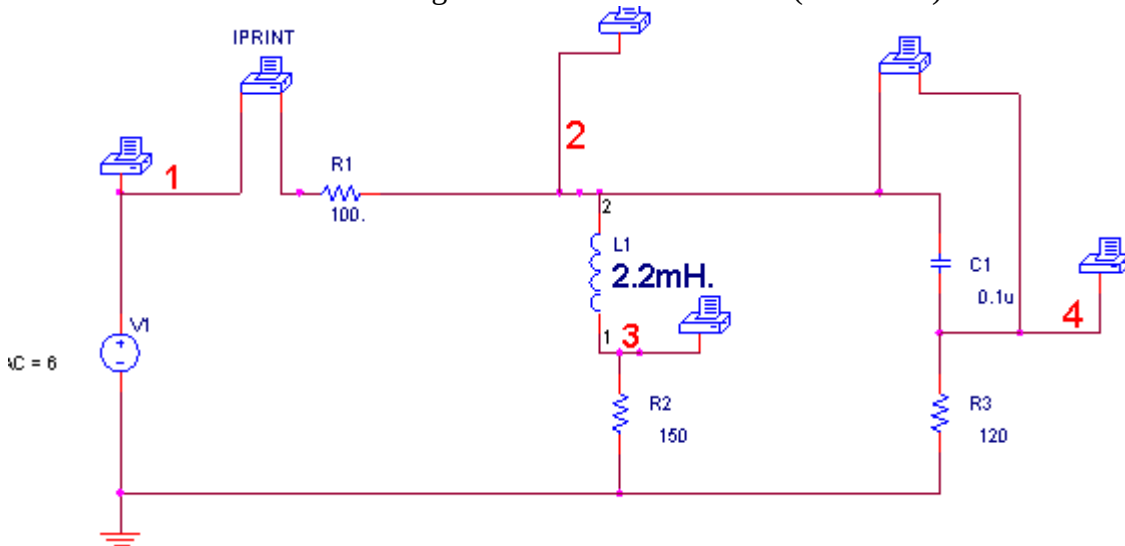

Figure 3 Circuit for Part 2 of PreLab
Solve the circuit of Figure 3 and determine the phasor voltages V_1 , V_{20} , V_{23} , V_{30} , V_{24} and V_{40} . Use the source voltage as the reference phasor. The ac voltage source is 6 V (peak). Use PSpice to verify your answers. This is just the previous circuit with another branch added. Note the node numbers. Ignore the terminal numbers (2 1 for L1) of the inductor.
- 1.1** Build the circuit of Figure 3 and measure the following phasor voltages at 15 kHz with the oscilloscope. Measure the phase relative to the input signal from the function generator. (If required, seek help in making the phase measurements with the scope). Compare the results of your measurement with prelab simulation and with the hand calculations. Enter your experimental readings in the following table.